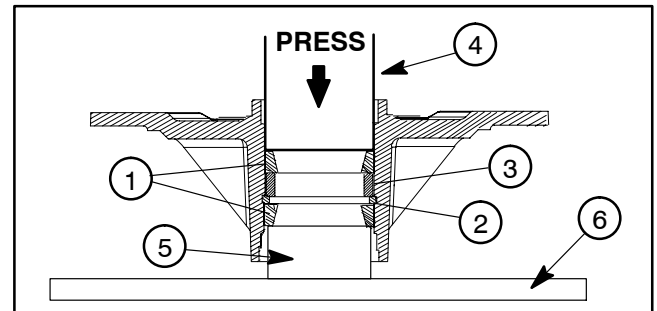

Figure 10
3. Using an arbor press, push the bearing cups into the top and bottom of spindle housing. The top bearing cup must contact the spacer previously installed and the bottom bearing cup must contact the snap ring. Make sure that the assembly is correct by supporting the first bearing cup and pressing the second against it (Fig 10).